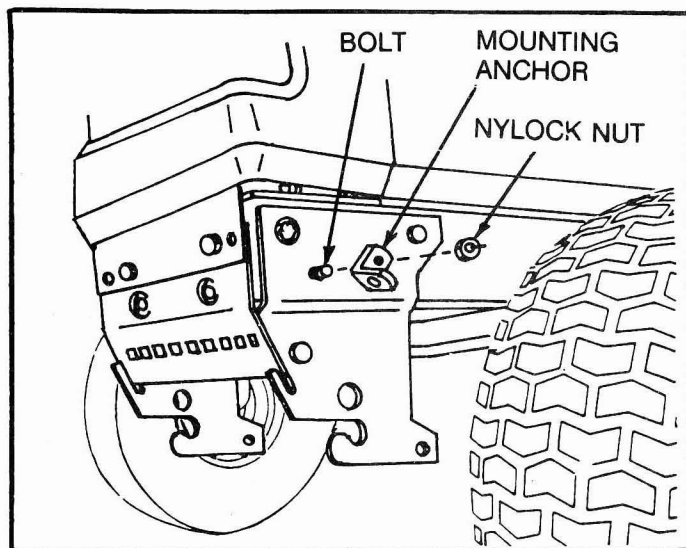

FIG. 4
- Assemble Mounting Anchor over bolt and reassemble Nylock Nut While holding Mounting Anchor at approximately 45 degrees to frame. (See Fig 4)